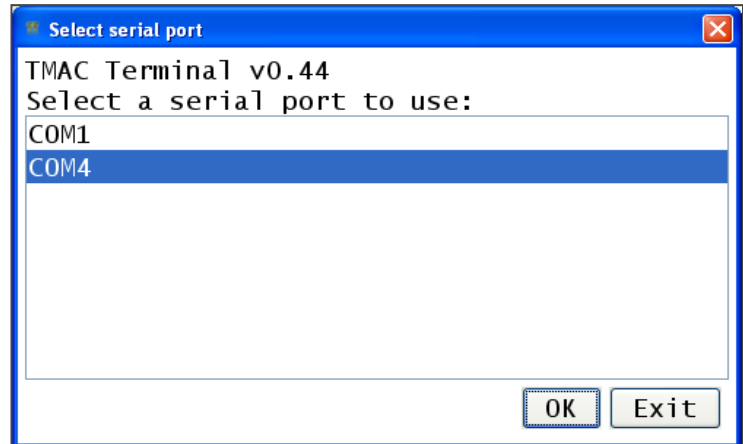

Fig. 20
7. The DTMAC term Select serial port screen opens (Fig. 20):